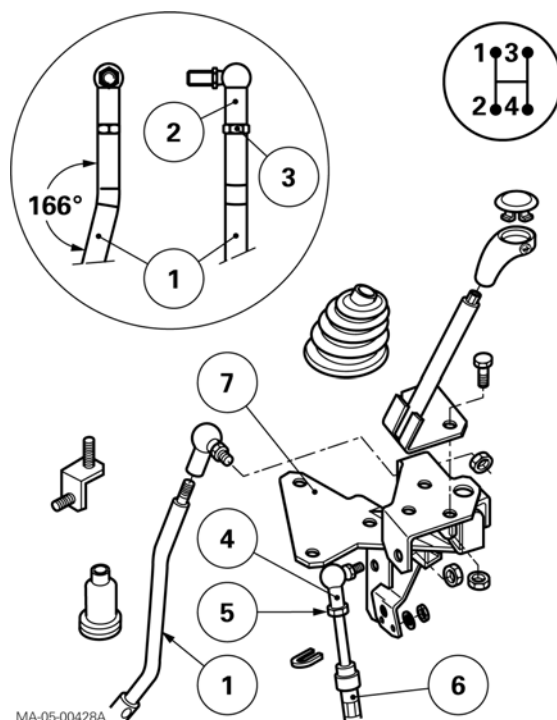

Fig. 17
Preparation (Fig. 17)
- 74.** On the end of the rod (1) shaped with an angle of 166°, position the ball joint (2) as shown in Fig. 17. Tighten the nut (3).
- 75.** Tighten the ball joint (4) up against the cable (6). Tighten the nut (5).
Assembly (Fig. 17)